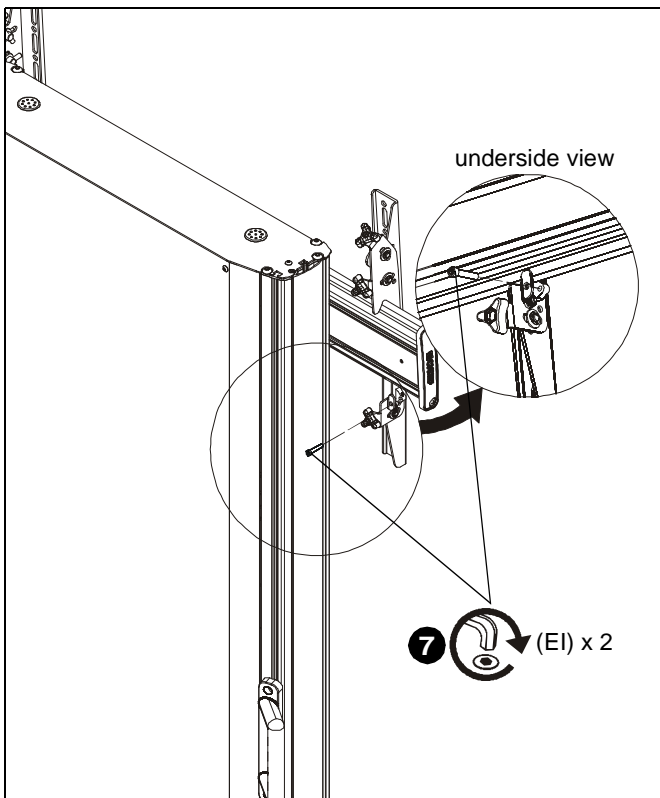

Figure 10
- Hang interface brackets (A and B) to display rails. (See Figure 10)
- Use 1/4-20 x 1 1/4" socket head cap screws (HI) to secure interface brackets (A and B) to rails for each display. Screws must engage through both holes to be fully secured. (See Figure 10)